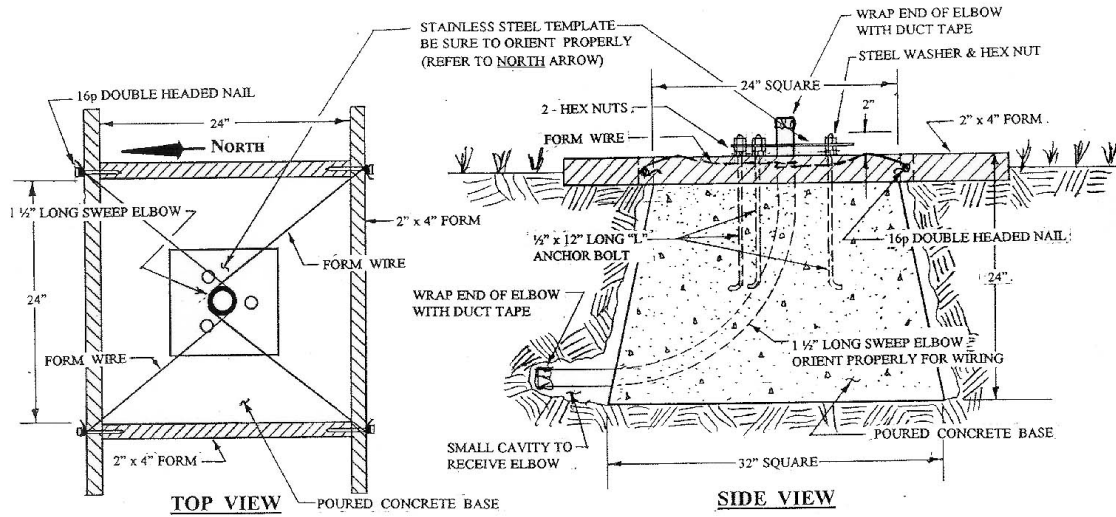

FIGURE 4 - CONCRETE BASE DETAIL
For the following procedures - Refer to **FIGURE 4** below.
1.0 The Tower for the "PRO" Weather Station - attaches to a user supplied poured concrete foundation - constructed as shown in **FIGURE 4** below.
BE SURE THAT YOU HAVE THE TEMPLATE PROPERLY ORIENTATED IN RESPECT TO "NORTH". Refer to FIGURE 4.
REFER TO NEXT PAGE FOR FIGURES 4 & 5